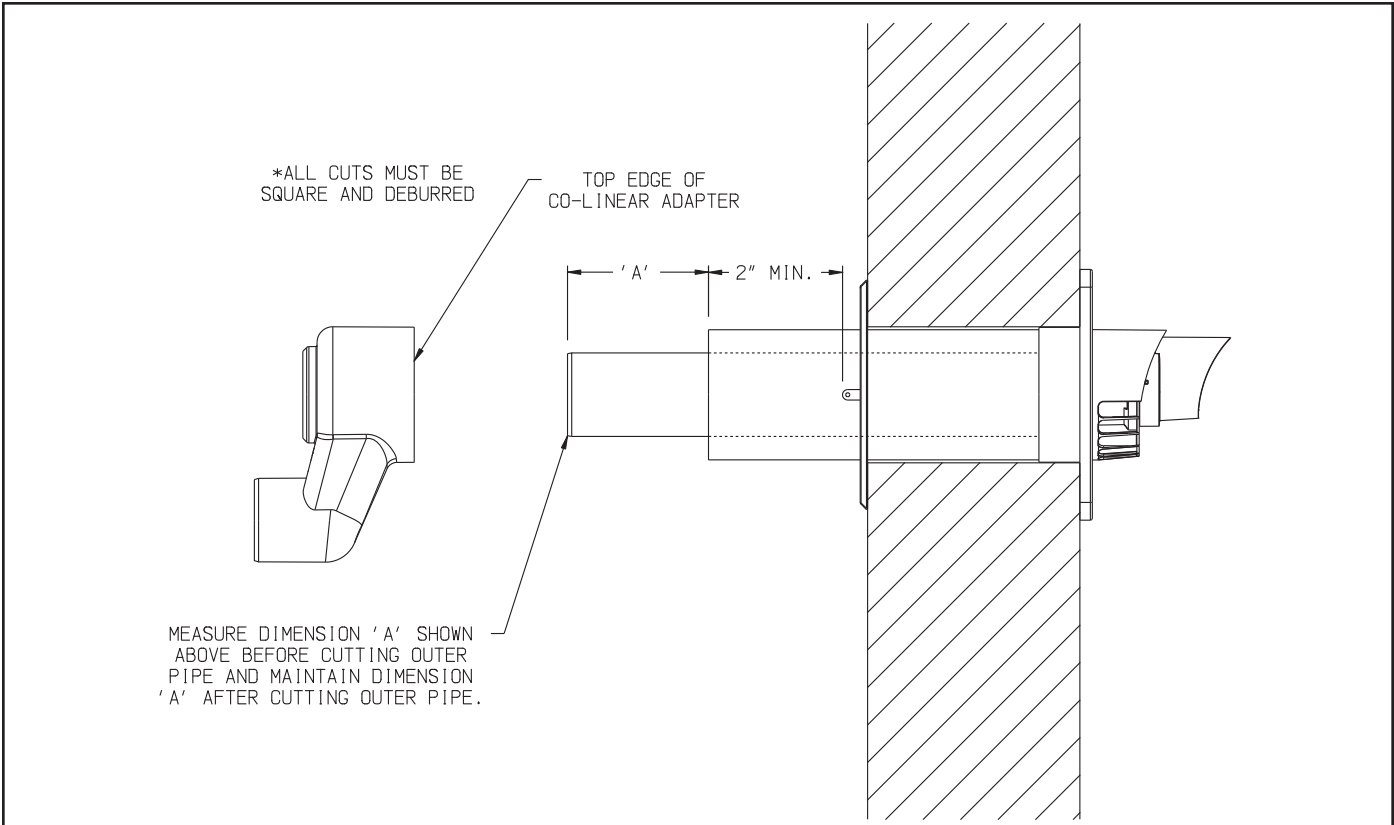

FIGURE 7.29: CUTTING DURAVENT POLYPRO HORIZONTAL CONCENTRIC VENT TERMINAL
- b. If desired, the terminal can be shortened. Mark the desired location of the cut on the outer pipe no closer than 2” from the edge of the tab on the interior wall plate. Prior to cutting outer pipe measure dimension ‘A’ of the inner pipe as shown in Figure 7.29 and maintain this dimension after cutting the outer pipe. All cuts must be square and de-burred.